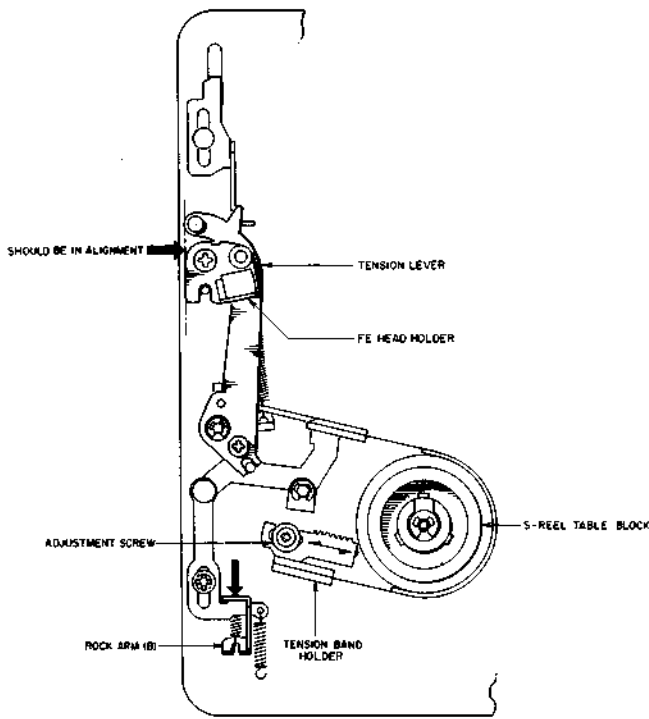

Fig. 5-3
ADJUSTMENT (Refer to Fig. 5-3)**
- 4) Loosen the adjustment screw and adjust the tension band holder so that the tension lever and FE head holder are in alignment as shown in Fig. 5-3, and tighten the adjustment screw.